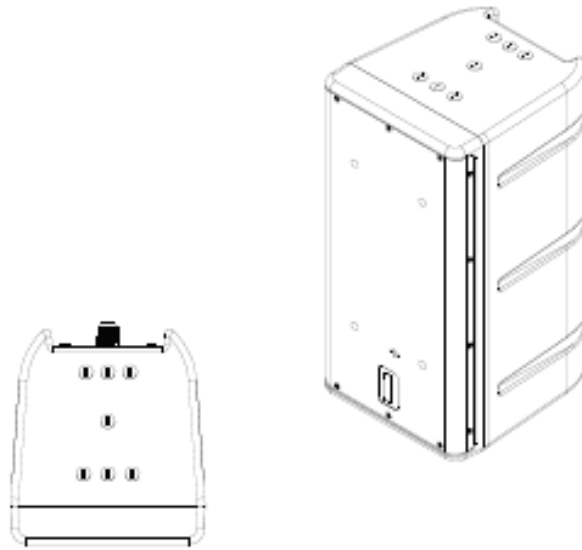

Figure 1
For One Systems 108IM and 208CIM enclosures two (2) “eye” bolts must be used for either a top mount, or if the enclosure is rotated into an “upside down” configuration, a bottom mount configuration. This is shown below in figure 1.